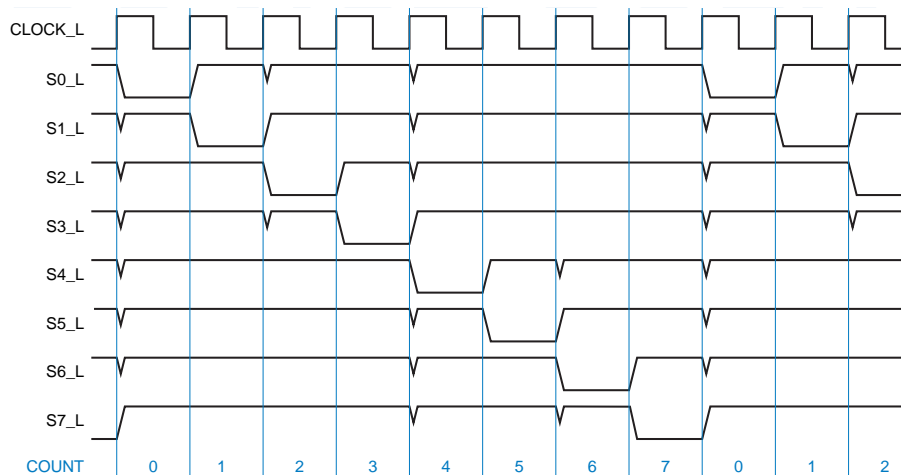

Figure 36: Timing diagram for a modulo-8 binary counter and decoder, showing decoding glitches.
- Fig. 36
- One way to clean up glitches in Fig. 36 is to connect '138 outputs to another register that samples stable decoded outputs on next clock tick